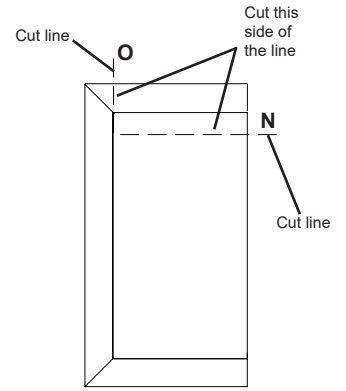

Figure 4a
2. Determine the orientation of the false tread facing the stair. Mark the length of the tread from the edge of the front moulding to the back **N**. Using a straight edge mark a cut line along the inside edge of the side moulding through the back end of the tread and moulding **O**. (See Figure 4a.)
3. Cut across the width of the tread **N** towards the side moulding, stopping at the edge of the moulding. **CAUTION! Do Not cut through the moulding!** Finish the cut with a coping saw. (See Figure 4a and 4b.) **NOTE: It is a good idea to make preliminary cuts inside of the cutlines and then recut, file, or sand to final fit.**
4. Cut from the back of the tread along the edge of the moulding **O** intersecting the previous cut. Finish the cut with a coping saw. (See Figure 4a and 4b.)